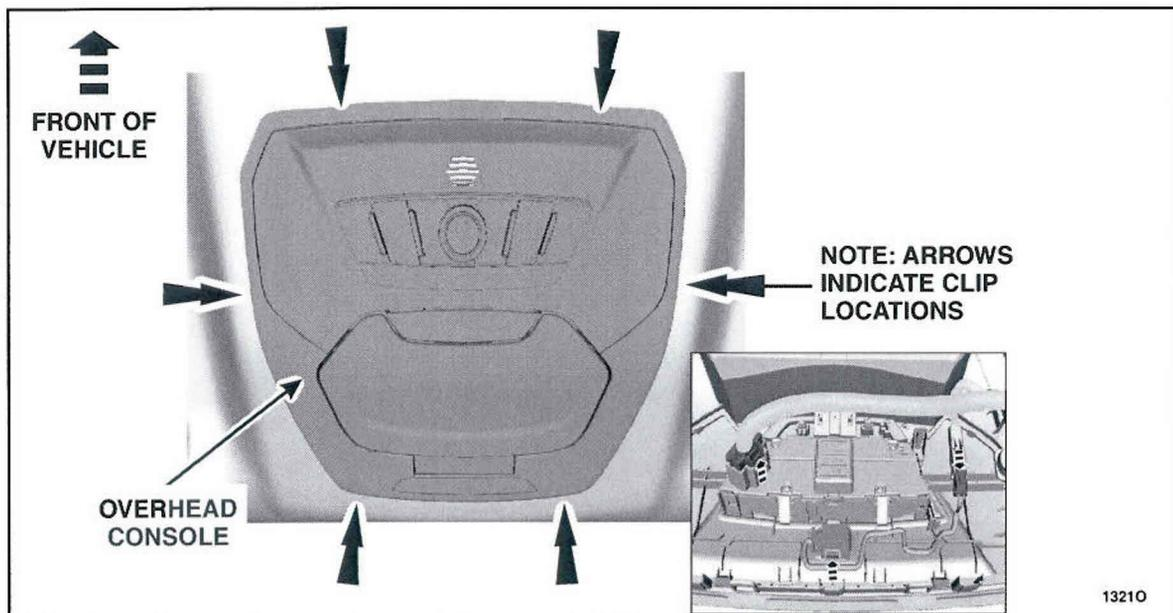

FIGURE 9
11. Remove the overhead console. See Figure 9.
25. Install the overhead console. See Figure 9.